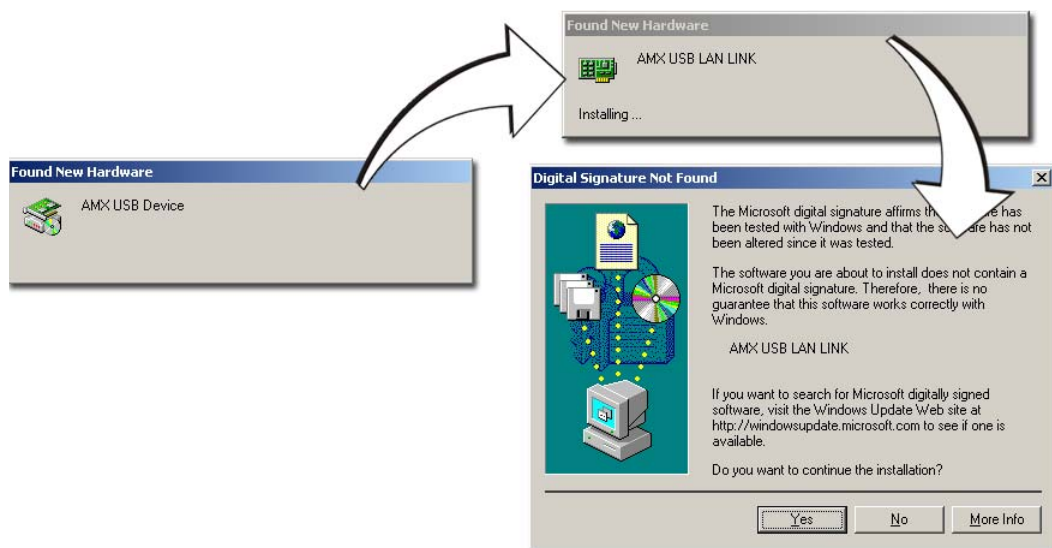

FIG. 54 USB driver installation popup window
- ONLY AFTER** the unit displays the first panel page, **THEN** insert the mini-USB connector into the Program Port on the panel. It may take a minute for the panel to detect the new connection and send a signal to the PC (*indicated by a green System Connection icon*). If this is your first time installing the USB driver, a USB driver installation popup window (FIG. 54) then appears on the screen.